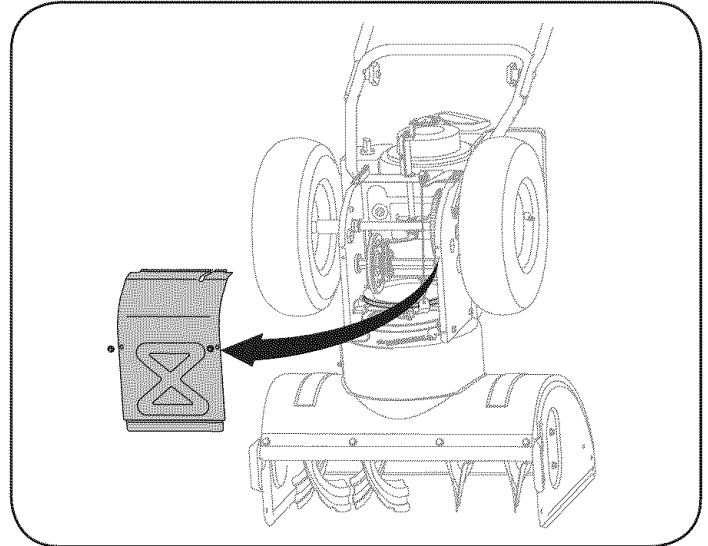

Figure 23
- Remove the frame cover from the underside of the snow thrower by removing four self-tapping screws which secure it. See Figure 23.
- Remove the frame cover from the underside of the snow thrower by removing four self-tapping screws which secure it. Refer to Figure 23.